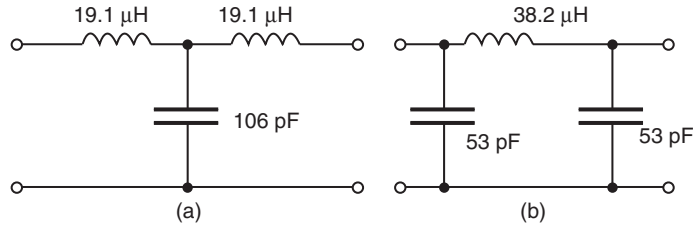

Figure 17.10
- (a) A low-pass T-section filter is shown in Fig. 17.10(a), where the series arm inductances are each  $\frac{L}{2}$  (see Fig. 17.7(a)), i.e.  $\frac{38.2}{2} = 19.1 \mu\text{H}$
- (b) A low-pass  $\pi$ -section filter is shown in Fig. 17.10(b), where the shunt arm capacitances are each  $\frac{C}{2}$  (see Fig. 17.7(b)), i.e.  $\frac{106}{2} = 53 \text{ pF}$